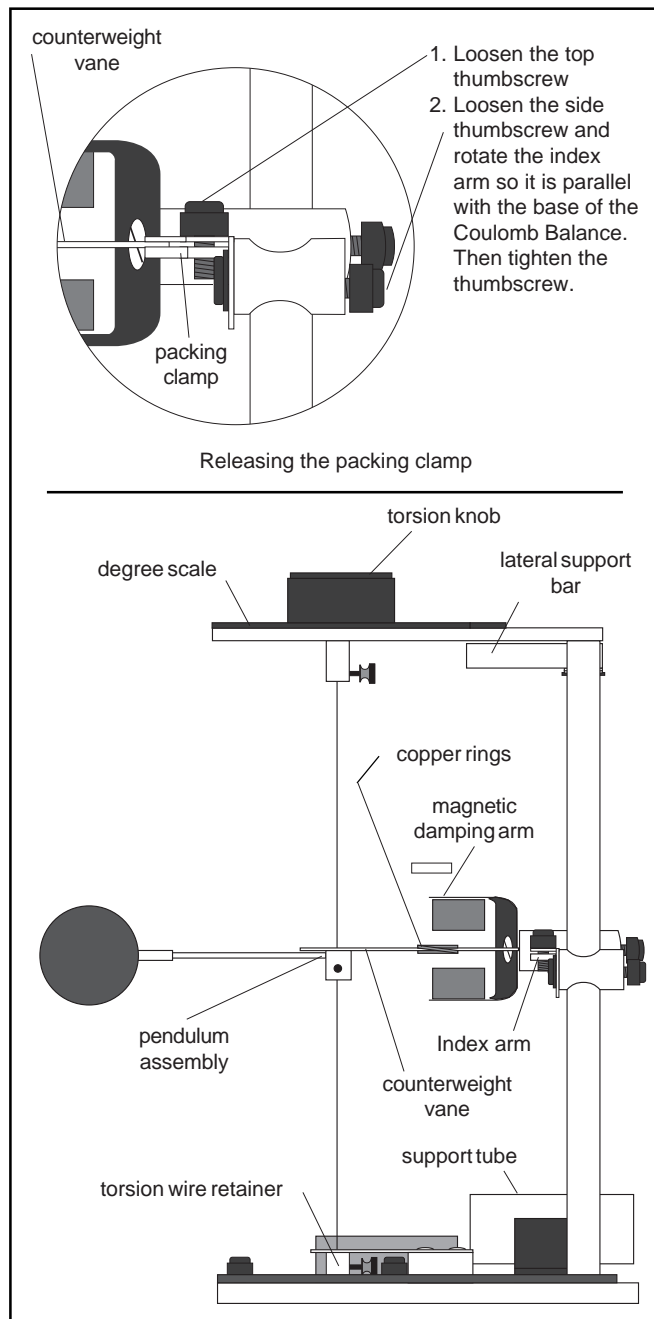
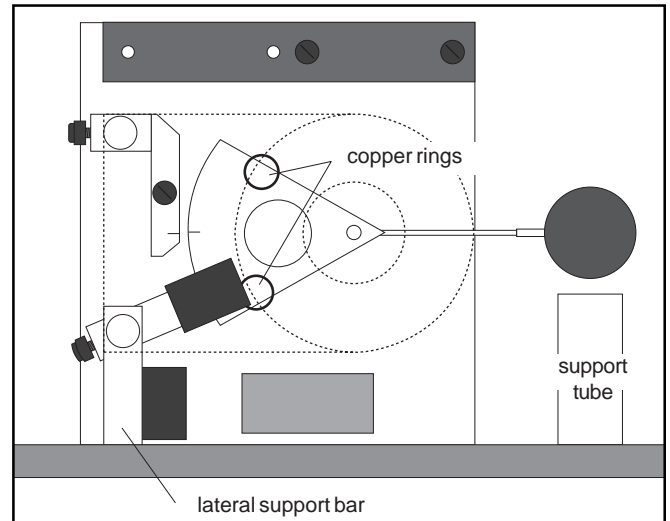

Figure 3. Setting Up the Coulomb Balance
Figure 4. Zeroing the Torsion Balance
- ① One of the conductive spheres is not attached when the Coulomb Balance is shipped. To attach it, just slip the stem of the sphere *over* the fiber glass rod of the pendulum assembly.
- ② Slide the copper rings onto the counterweight vane, as shown in the bottom of Figure 3. Then release the packing clamp that holds the counterweight vane, as shown in the top of Figure 3. Adjust the position of the copper rings so the pendulum assembly is level.
- ③ Reposition the index arm so it is parallel with the base of the torsion balance and at the same height as the vane.
- ④ Adjust the height of the magnetic damping arm so the counterweight vane is midway between the magnets.
- ⑤ Turn the torsion knob until the index line for the degree scale is aligned with the zero degree mark.
- ⑥ Rotate the bottom torsion wire retainer (do not loosen or tighten the thumbscrew) until the index line on the counterweight vane aligns with the index line on the index arm.
- ⑦ Carefully turn the torsion balance on its side, supporting it with the lateral support bar, as shown in Figure 4. Place the support tube under the sphere, as shown.
- ⑧ Adjust the positions of the copper rings on the counterweight vane to realign the index line on the counterweight with the index line on the index arm.
- ⑨ Place the torsion balance upright.